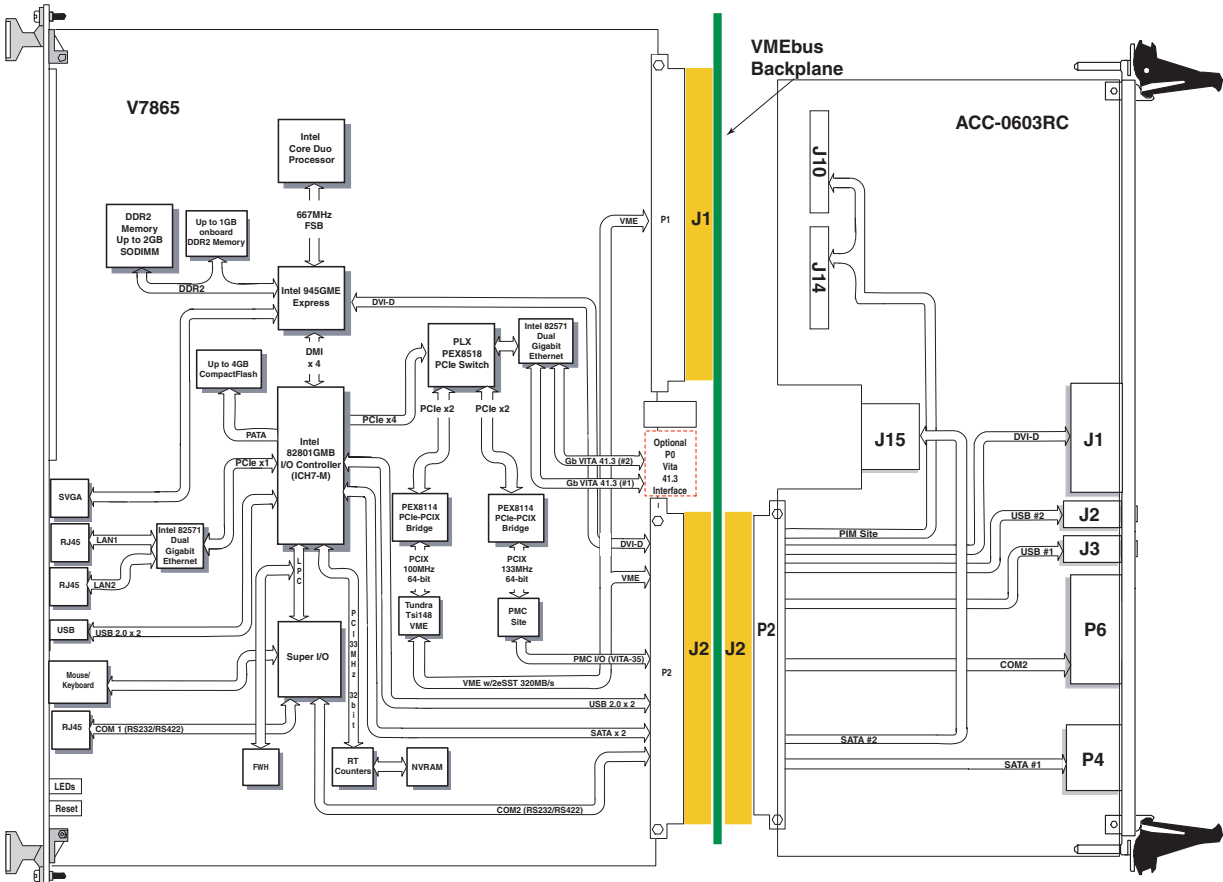

Figure 1-2 Installation of the ACC-0603RC Rear Transition Module with a V7865 SBC
- Figure 1-2 Installation of the ACC-0603RC Rear Transition Module with a V7865 SBC 13
The VME P2 connector carries all associated signals. All signals are routed from the single board computer (SBC) (installed in the front of the chassis) through the backplane to the ACC-0603RC P2 connector. Figure 1-2 on page 13 is an illustration of the ACC-0603RC installed in the VME rear I/O.
The ACC-0603RC RTM installs into the rear of the VME chassis using the P2 connector. An example installation of the ACC-0603RC and the V7865 is shown in Figure 1-2.